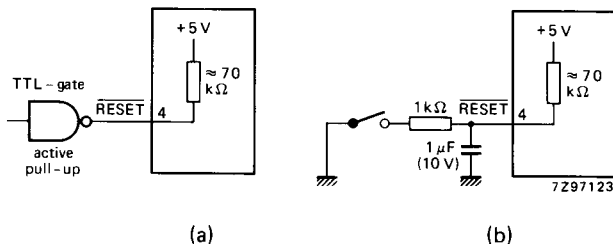

Fig. 9 An external reset is shown in (a) and power-on reset in (b).
**$\overline{RESET}$**  (see Fig. 9)